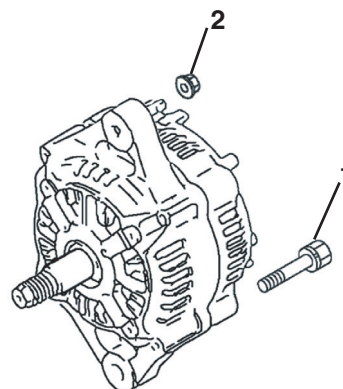

Figure 4-7-8
7. Remove the two bolts (**Figure 4-7-8, (1)**) and two nuts (**Figure 4-7-8, (2)**) securing the rear frame housing to the front frame housing.